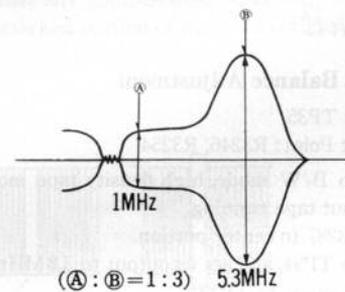

Fig. 19
5. Adjust R546 so that the relative gain of peak frequency ② with 1MHz ① becomes 10 dB (about 3 times) as shown in Fig. 19.